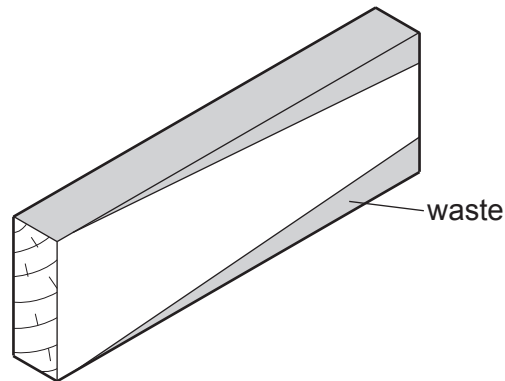

Fig. 13.2
- (c) Fig. 13.2 shows the length of hardwood that will be used for the tail.